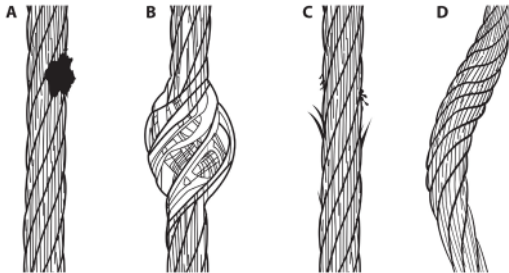

Figure 27: Inspection of Cable
Inspect the entire length of the constituent line up to the Green Maximum Working Length Visual Indicator shown in Figure 26. Review the cable lifeline closely for broken strand wires, welding spatter burns, welding slag, bird-caging, kinks and bent strands. Also examine for rust, dirt, paint, grease or oil. Check for damage caused by chemical corrosion or excessive heat as evident with discoloration. See Figure 27 for examples. If any of these conditions exist, remove the SRD from service.
Extract all of the cable and check the entire working length for damage caused by chemical corrosion or excessive heat as evident by discoloration (A), bird caging (B), broken wire strands (C), kinks and bent strands (D), see Figure 27. The cable should retract completely without faltering and should remain taut under tension without sagging.
<p>Inspect the entire length of the constituent line up to the Green Maximum Working Length Visual Indicator shown in Figure 26. Review the rope lifeline closely for broken strands, welding spatter burns, welding slag, abrasion damage, glazing, changes in or variable rope diameter, discoloration, changes in flexibility, kinking, or hockling. Also examine for rust, dirt, paint, grease or oil. Check for damage caused by chemical corruption or excessive heat as evident with discoloration. See Figure 27 for examples. If any of these conditions exist, remove the SRD from service.</p> <ul style="list-style-type: none"> • Abrasion: Rupture or fraying of fibers due to wear and/or due to motion against other fibers, rope components, or a contact surface. • Glazing: A fusing or melting of the fibers that gives a hard glassy surface due to overheating or excessive friction over a surface or the rope itself. • Diameter Integrity: An increase or decrease in rope diameter due to excessive abrasion, glazing, foreign objects in the core, or reduction in core size due to broken fibers. • Discoloration: Fading, streaking, or staining due to chemical, UV, environment, or other outside agents that may cause a reduction of strength of the rope. • Flexibility: A loss in the ability to bend for the type and construction of the rope, hard or soft spots. • Core Fiber Exposure: The core from the center of the rope may work itself through the cover and may cause a loss of strength and the ability of the rope to function over a sheave. • Kinking or Hockling: A short twist, curl, or bend in one or more of the yard or rope strands, will cause a reduction in rope strength. It may be possible to work the kink out, but if the strand is still distorted the strength reduction will occur.